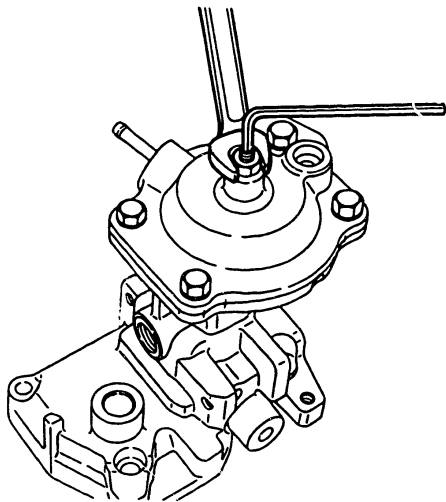

Fig. 34 Setting the stopper bolt position
- 5 Then, screw the stopper bolt (67/50) a further half turn and fix it using the lock-nut (67/53). (Fig. 34)